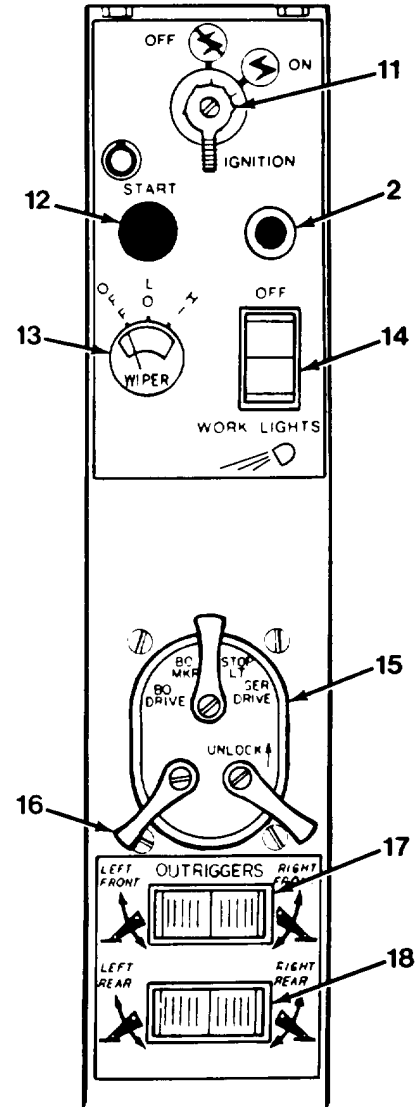

Figure 4-3. *Slide Sloping Dash Panel*
2. **Dash Lights** illuminate dash panel and side sloping dash panel (Figure 4-3).
11. **Ignition Switch** turns electrical circuits ON and OFF, and stops engine in the OFF position (Figure 4-3).